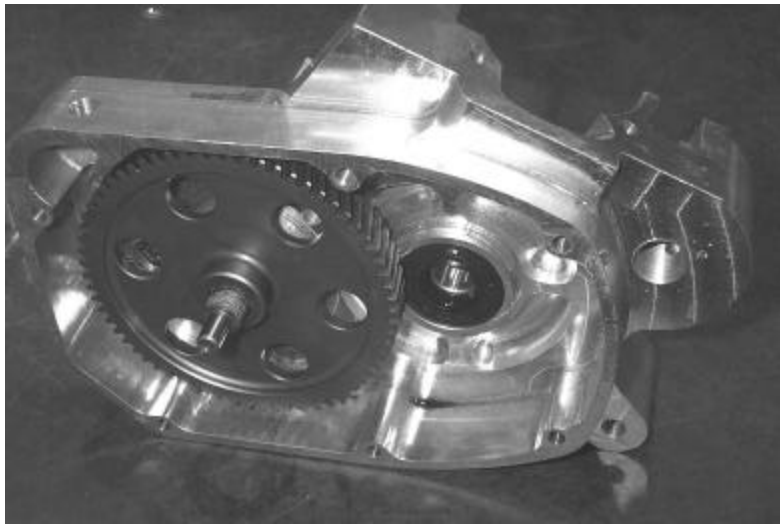

Figure 8
9. Insert the transmission input shaft and install large drive gear as shown in figures 8 & 9.